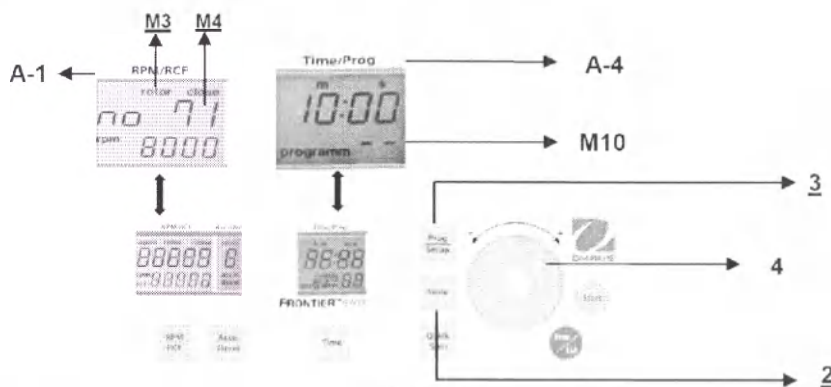

Fig. 23
To recall stored programs press the key **"Prog/Setup"** (3) (refer to figure 23) while the lid is already closed. Inside the display **"Time/Prog"** (A-4), **"programm --"** (M10) appears. The desired program number can be pre-selected with the adjusting dial (4).
To leave the program mode just press the key **"Prog/Setup"** (3) (refer to figure 23). Then inside the display **"Time/Prog"** (A-4) the word **"programm"** (M10) appears.